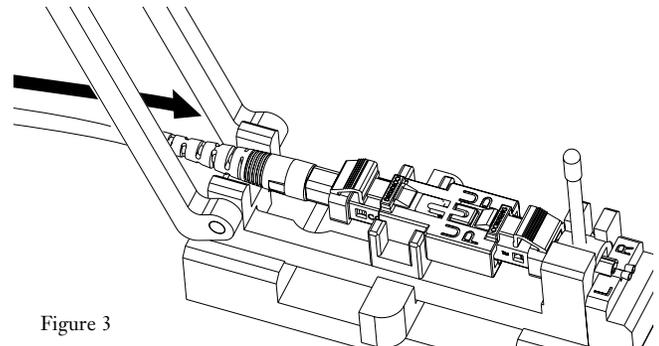

Figure 3
- Route the other end of the jumper through the open area of the crimp handle of the UniCam installation tool, and plug the MT-RJ connector into the CTS coupler and its connector (Figure 3).